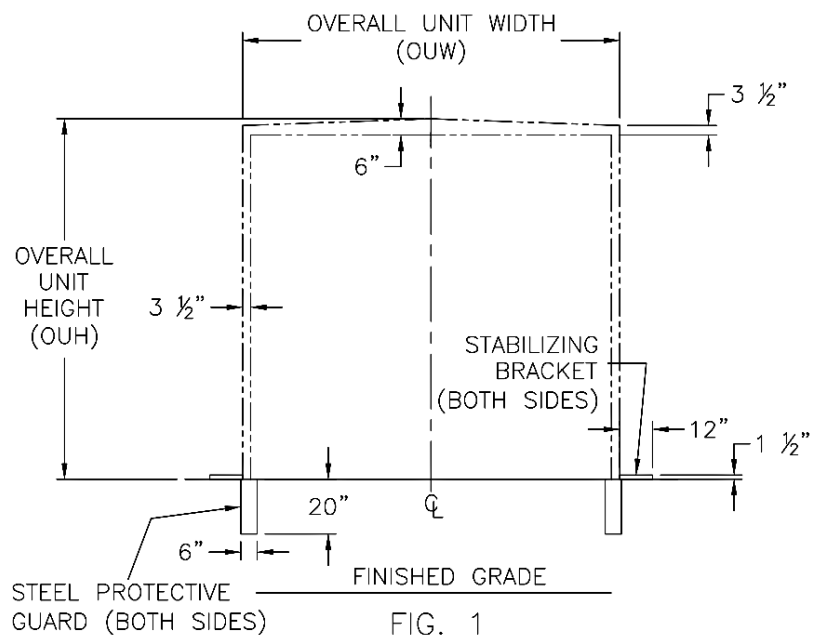

FIG. 1
- **Make sure there is enough space to install shelter** (Figure 1 – Standard Unit).